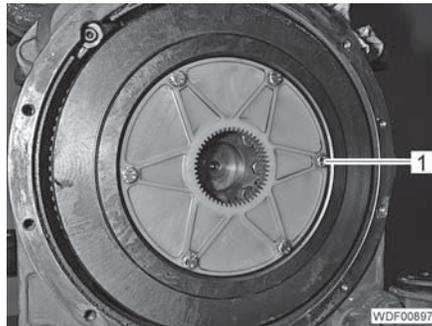

Fig. 68 Clutch PA flange attachment
- Unscrew the 6 screws (Fig. 68,1).